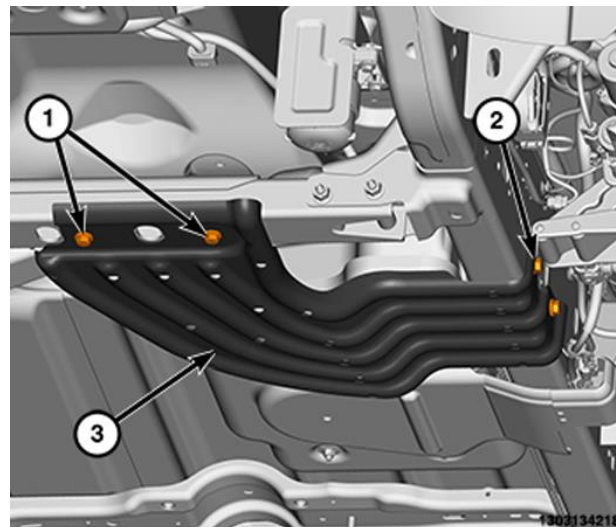

Figure 5 – Transfer Case Skid Plate
- If equipped with a transfer case skid plate. Remove and **SAVE** the bolts (1) and (2) then remove and **SAVE** the skid plate (3) (Figure 5).